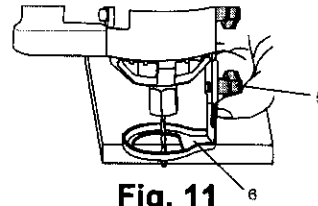

Fig. 11
1. Adjust precision handle sole plate depth, by loosening the depth gauge knob (5) and sliding the sole plate (6) in or out as required (see Fig. 11).